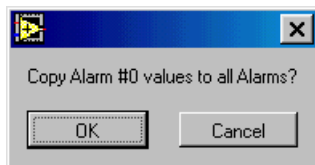

Figure 12-4. Copy Alarm Message Box
- **Copy Alarm #0 to All** — Click this option to copy the configuration settings of the top level alarm in this dialog box (in this case, the **Redundant Module Status** alarm settings) to all 2048 kHz output module alarms. In the message box (Figure 12-4) click **OK** to confirm or **Cancel** to cancel the operation.